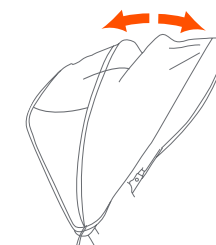

Fig. 12b
• **To open the canopy:** push forward on the front edge of the canopy while holding the rear of canopy in place (Fig. 12b).
• **To fold the canopy:** pull backwards on the front edge (Fig. 12b).